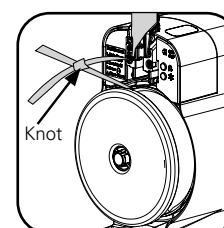

Figure 11
15. Locate the #1 sleeve end from the USED side of the refill and the #2 end of the new sleeve that was pulled through the Plastic Handle in #14. Tie these two ends together tightly. (Fig. 11).